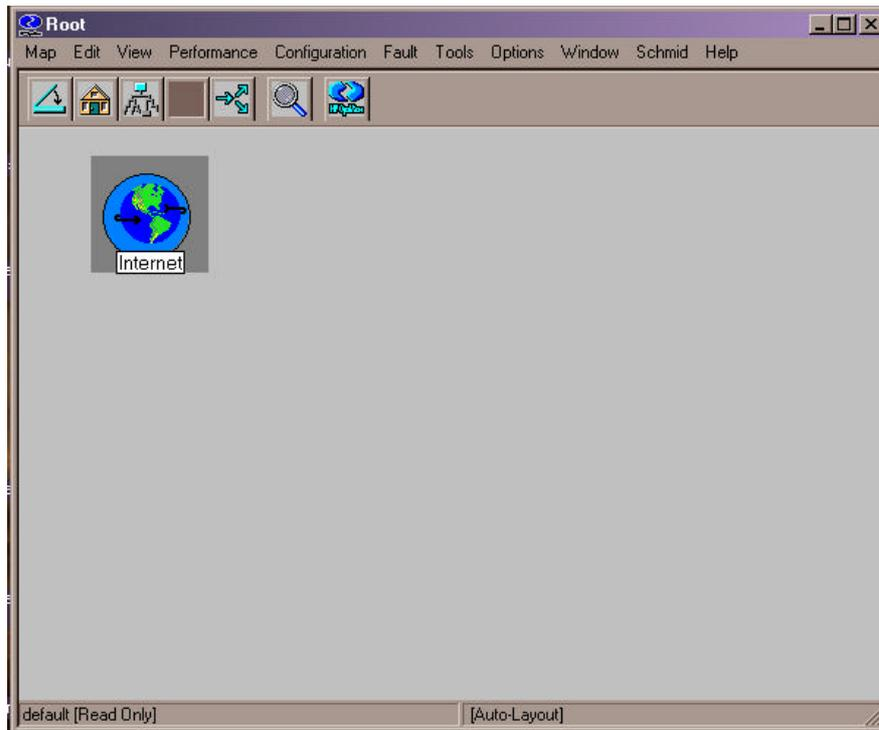

Figure 1: Root
- A main window entitled ROOT, which contains an icon named INTERNET (see Figure 1);
This window shows the application starting up and contains an icon named INTERNET (see Figure 1). The use of this icon will be described in the following chapters.
As we saw in the section entitled Displays and Icon Functions, when you launch OPEN VIEW a start-up screen called ROOT appears (Figure 1). In this window there is an icon named INTERNET (see Figure 3) which has a certain colour (as explained in the previous chapter). In general terms this icon represents the network and the equipment connected to it. In this particular case, it will represent the monitoring system for the modems connected to a particular network.